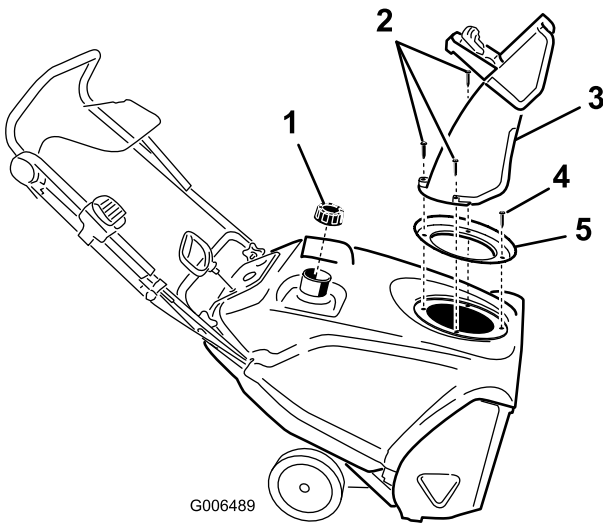

Figure 24
3. Remove the discharge chute, the discharge-chute handle, and the chute seal by removing the 3 large screws and 1 small screw (Figure 24).